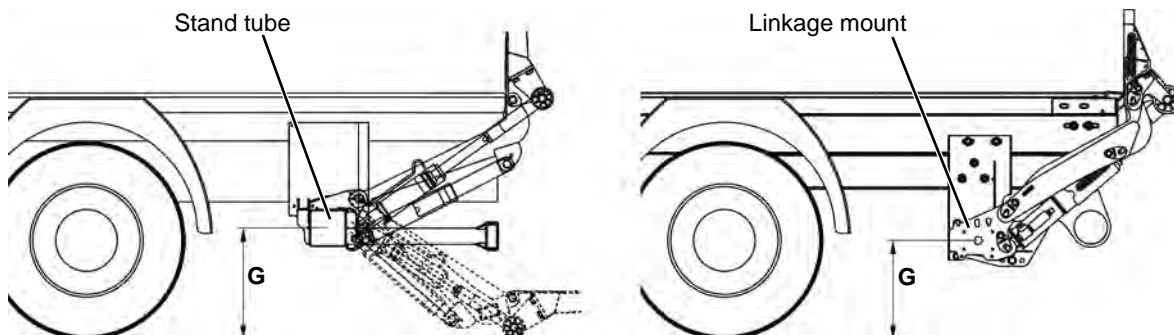

Figure 47: Distance between the lifting mechanism and the ground (dimension "G")
- ▶ Proceed as described in chapter 10.5, page 69, if the distance from the lifting mechanism to the ground is small (dimension "G" from the centre of the stand tube/linkage mount to the ground is less than 450 mm, see Figure 47).
Special procedure if the distance between the lifting mechanism and the ground is small (dimension "G" from the centre of the stand tube/linkage mount to the ground is less than 450 mm, see Figure 47, page 68):